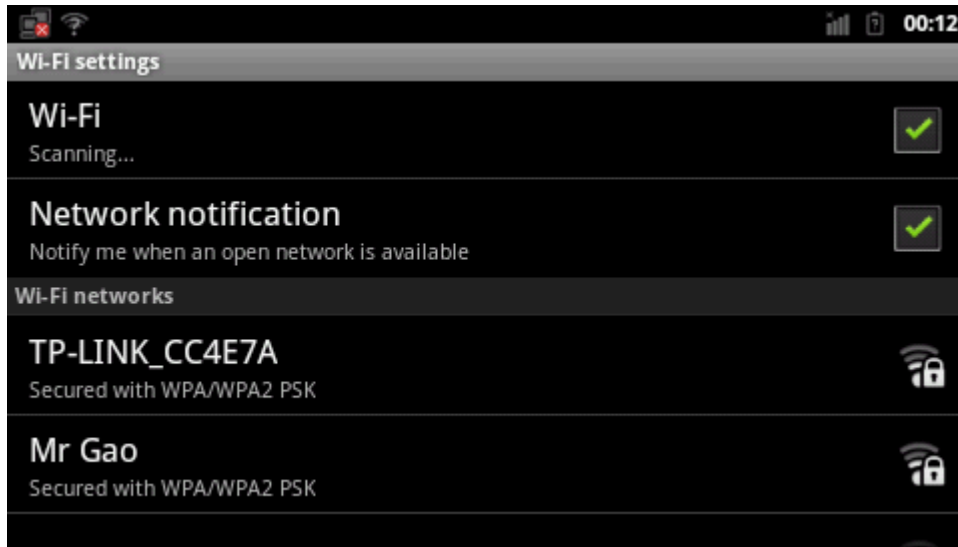

Figure 5-31
(5) Select appropriate network and choose TP-LINK_CC4E7A. Refer to figure 5-31: